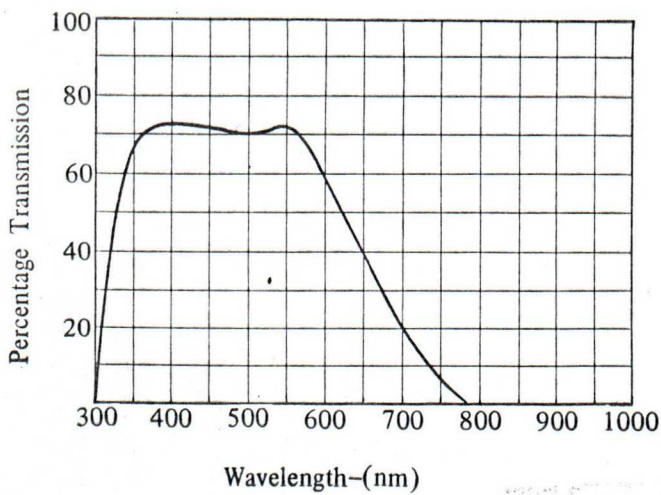

Fig.8 Typical Transmission of Toshiba IR-DIB Visible Absorbing Filter
11. With the same light source specified in note 8 except on infrared transmitting filter (Toshiba IR-DIB) is interposed between the light source and the faceplate of the tube. (See Fig. 8)